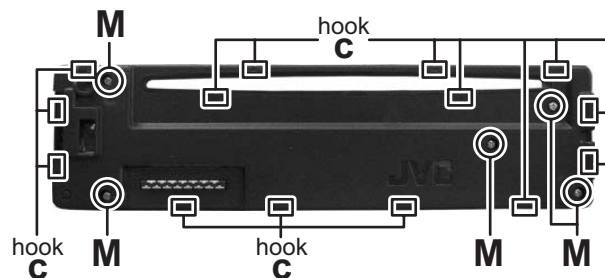

Fig.7
3.1.7 Removing the REAR COVER (See Fig.7)